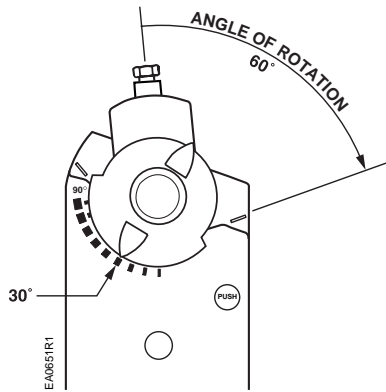

Figure 16.
- Remove the shaft adapter and insert it with the position indicator pointing to mark on the scale calculated in the previous step. Figure 16.